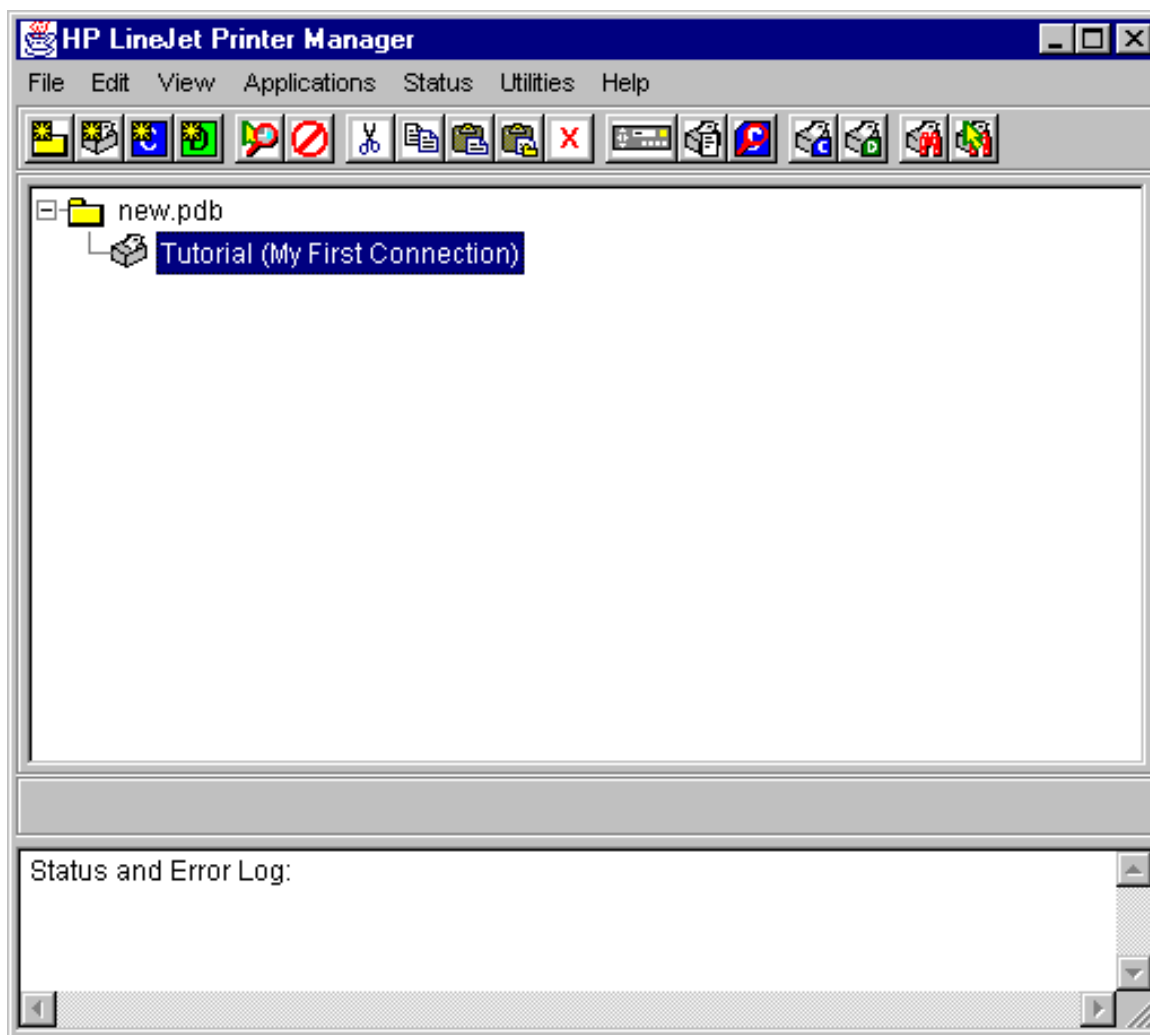

Figure 6. Printer Database Main Window
- a. The "Tutorial (My First Connection)" icon should be highlighted in blue, as shown in Figure 6. If it is not highlighted, click on the icon once to select it.